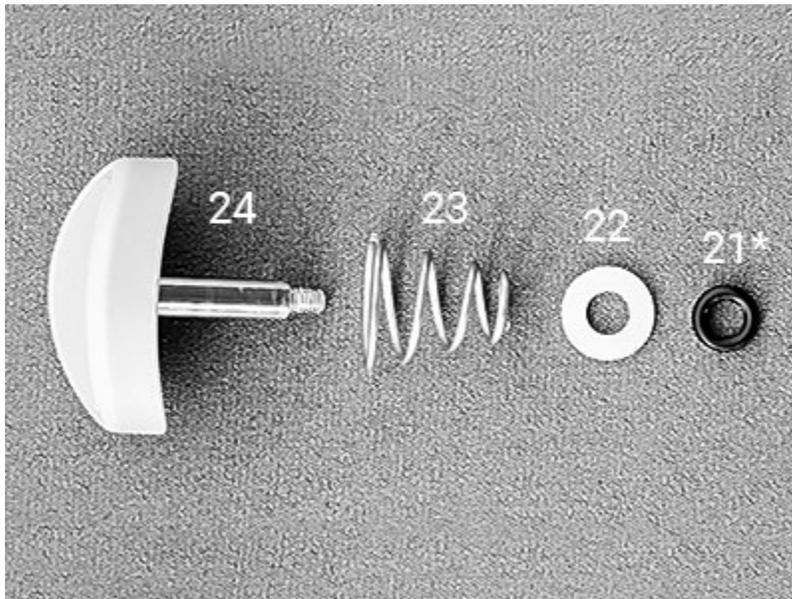

Fig. 16
13. Remove the Oral Button assembly from the Main Body and separate its four parts: Oral Button (24), Spring (23), Washer (22) and O-ring (21*) - Fig. 16. The O-ring may be retained in the Main Body. If so, extract it with a plastic pick.